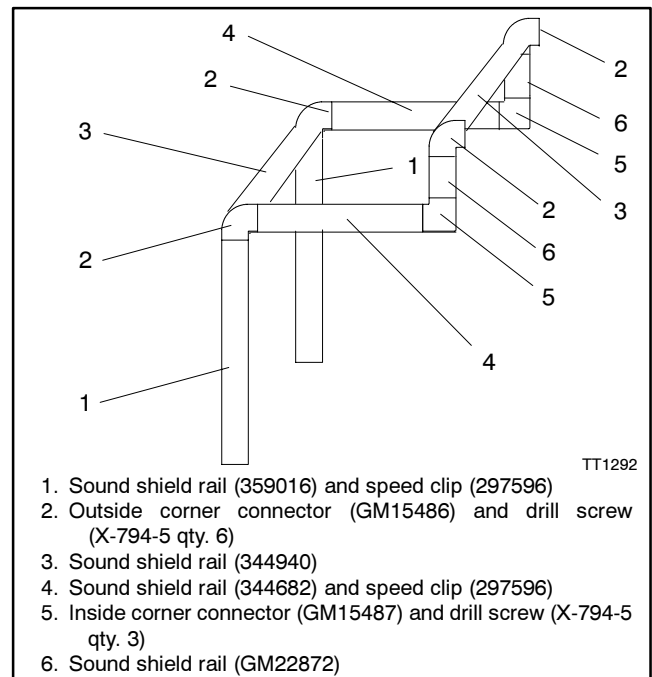

Figure 8 Rail Framework
- 8.1 See Figure 8. Construct a subassembly containing the following components: